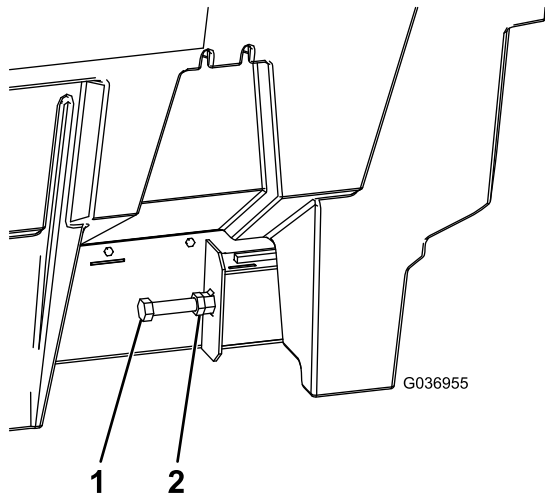

Figure 24
- To adjust the tension, loosen the jam nuts on the sides of the spreader (Figure 24).